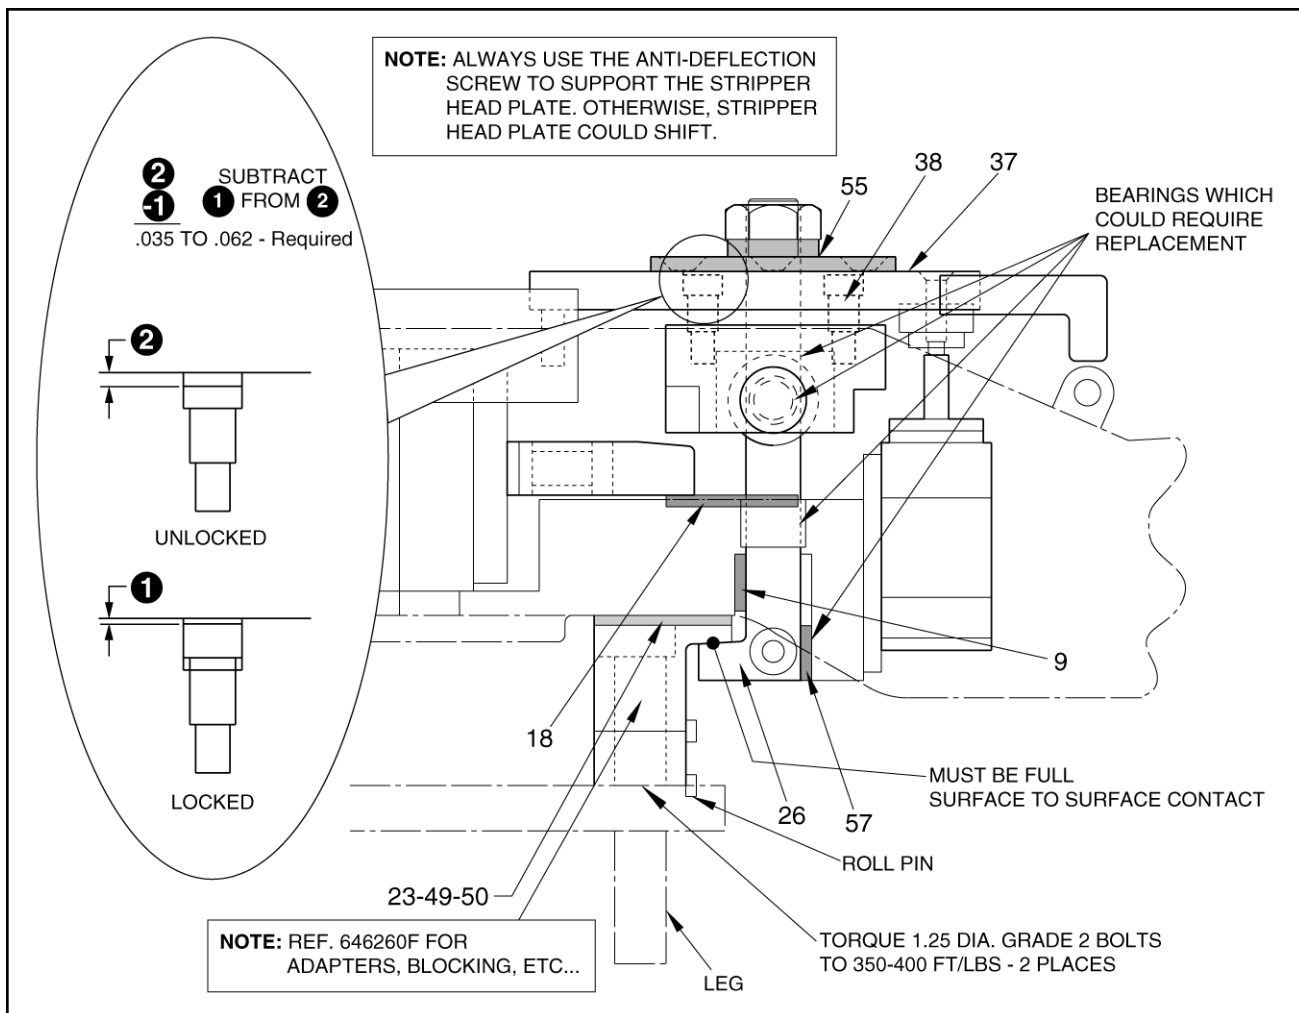

Figure 16.2 HEAD CLAMP (DRAWING #455724 – USE WITH DRAWING #455725)
It is important to check and adjust spring tensions on the lock mechanism of the head clamp at monthly intervals. It is also necessary to replace Duralon bearings (#18, figure 16.2) when they reach 0.007" [0.18mm] wear, which represents approximately 2,000 hours of work.
- c. Measure top of plate (37) to top of shoulder bolt (38). See dimension 2 on figure 16.2.
- e. Measure distance from top of plate (#37) to shoulder bolt (#38). See dimension 1 in figure 16.2. Use depth micrometer for measurements. Shoulder bolt motion should be 0.035" [8.89mm] to 0.062" [15.75mm].